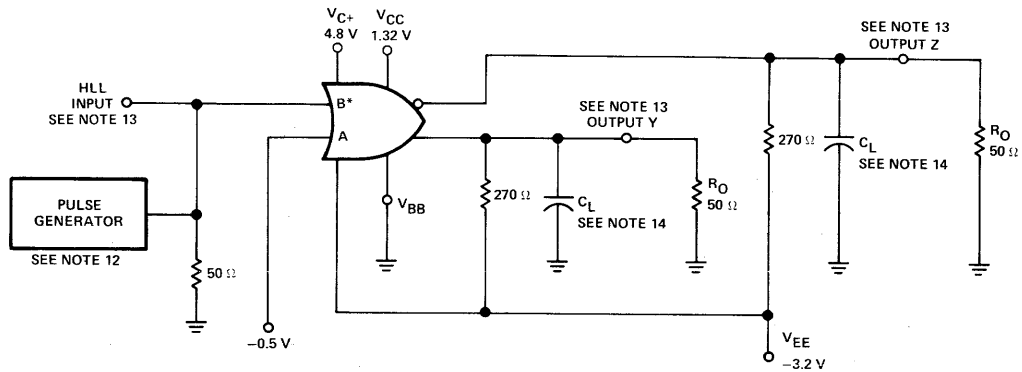

FIGURE 10—ECL2536 PROPAGATION DELAY AND TRANSITION TIMES (HLL INPUT)
ECL2536 using HLL inputs (see figure 10)
- Bias voltages and loads for the gate under test are shown in Figures 10 through 12. Unused gates have inputs biased as shown in Figure 2 for the ECL2536 or Figure 6 for the ECL2537, outputs under load, and power applied.